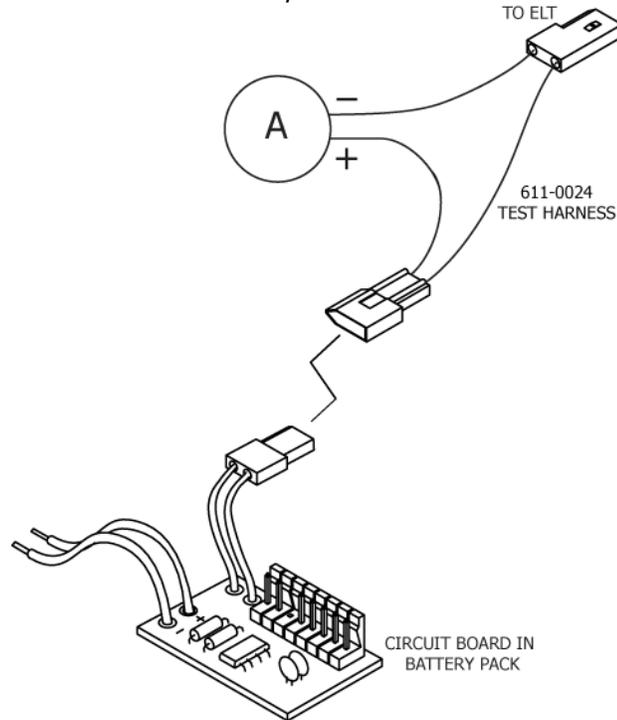

Figure 11 Current Draw Test Setup
- 4) Install test harness 611-0024, or equivalent, in the power circuit. See Figure 11 Current Draw Test Setup.